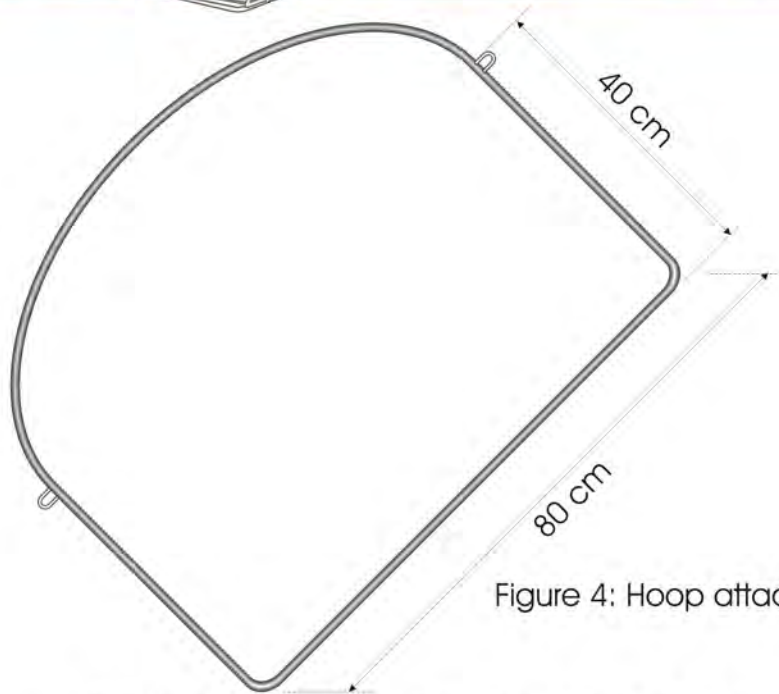

Figure 4: Hoop attachment for parts A and C.
2.1.2 Make and attach chain hoops to the front part (A) and back part (C)
In this JTED type, two chains connect the front part (A) and back part (C). Curved hoops must be made and attached to parts A and C for the purpose of chain attachment. Each curved hoop can be made from a 10cm length of 8mm diameter iron bar. These hoops must be welded to the frames approximately 40cm from the base of the part (see Figure 4).